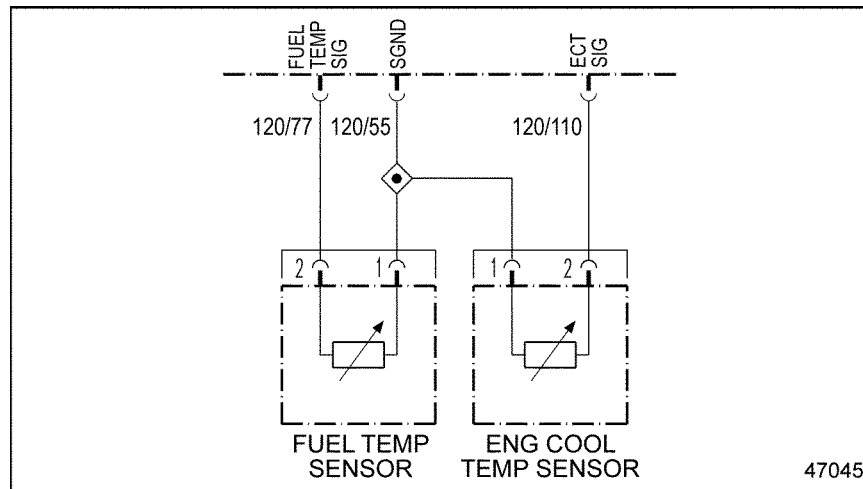

Figure 9-2 Engine Coolant Temperature Sensor
3. Measure the resistance across pins 1 and 2 of the ECT Sensor connector. See Figure 9-2.